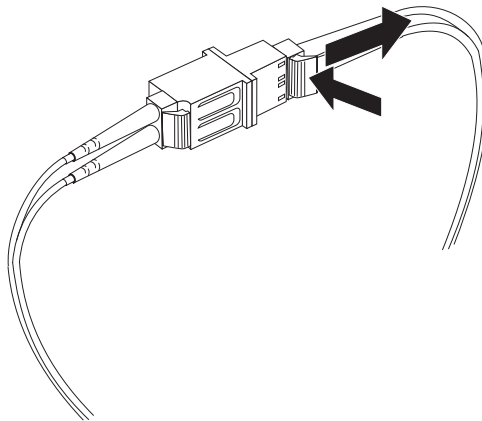

Figure 15. Removing the LC-LC Fibre Channel cable from an LC-SC Fibre Channel cable adapter
2. Carefully pull on the connector to remove it. Make sure you grasp the connector and not the cable when removing the LC-LC cable from the LC-SC cable adapter, as shown in Figure 15.